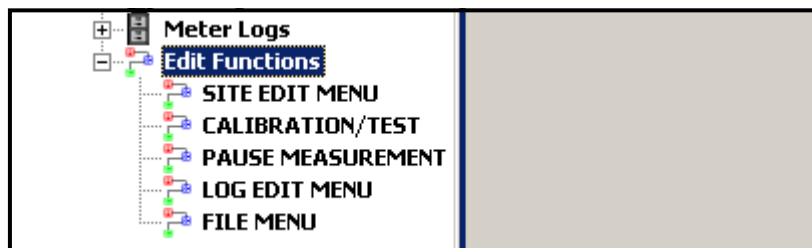

Figure 10: Edit Functions Menu for XGM868i with Logging Card
1. From the *New Meter Browser* in PanaView, expand the network tree and open the *Edit Functions* option (described in Appendix C, *Programming the XGM868i via PanaView*). The menu will appear similar to Figure 10.
2. Double-click on the *Log Edit Menu*, as shown in Figure 10. The window appears similar to Figure 11.